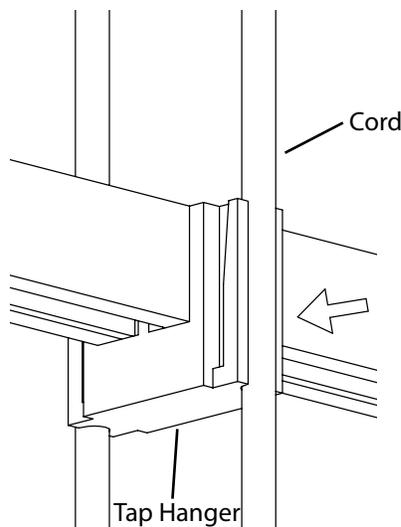

Fig. 20
5. Press each cord into the slot on each side of the **Tap Hanger** (Fig. 20).